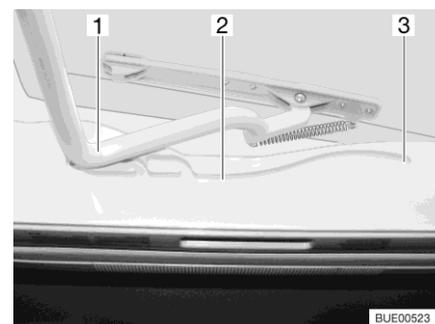

Fig. 87 Guide (Heki skylight)
- Pull the bar (Fig. 87,1) in the guides (Fig. 87,2) to the rearmost position (Fig. 87,3).
- Use both hands to push the bar (Fig. 87,1) slightly upwards.
- Pull the bar in the guides (Fig. 87,2) to the desired position.